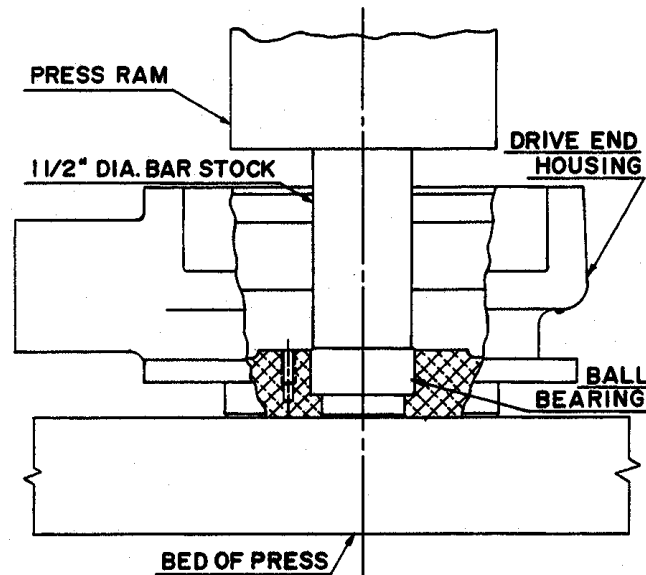

FIGURE 26
1. Press the oil seal (4) into the drive end housing (6) with the seal lip toward the outside of the housing. Use an arbor press and a flat pressing tool at least 1.5 inch diameter. (See Figure 26.)